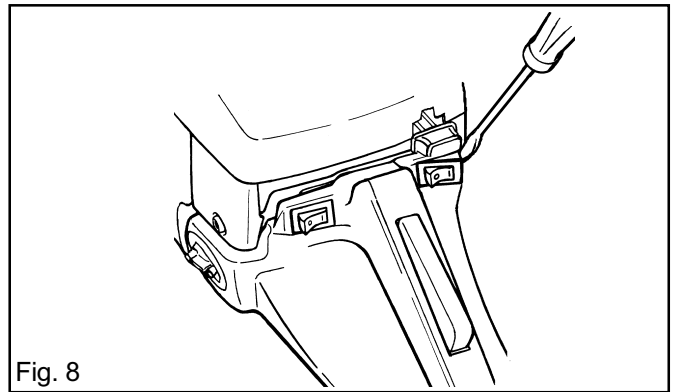

Fig. 8
2. Prise out the on/off switch with the help of a screwdriver See fig. 8.
1. Remove the on/off switch and disconnect the leads. See fig. 8.